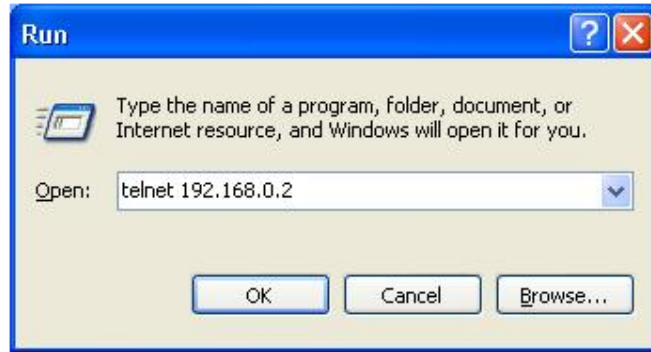

Figure 31 Access Through Telnet
Step 2: Enter "telnet *IP-address*" in the Run dialog box, as shown in Figure 31.